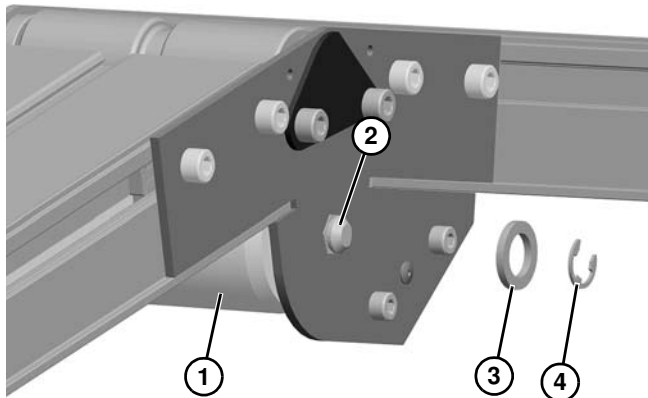

Figure 79
- a. For 2" (44 mm) through 4" (95 mm) wide conveyors, install pulley (**Figure 79, item 1**) and pulley shaft (**Figure 79, item 2**). Install washer (**Figure 79, item 3**) and E-ring clip (**Figure 79, item 4**) on one side.